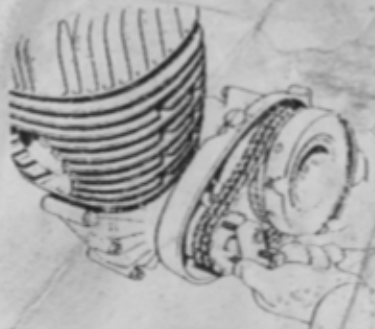

Fig. 7 Removing engine sprocket, chain and clutch as a set. Note engine sprocket puller fitted.
- 9 Fitting a three bolt puller, part number 0710060 as shown in Fig. 7, pull the engine sprocket off the crank key by securing the two outer bolts to the sprocket then tightening the center bolt.